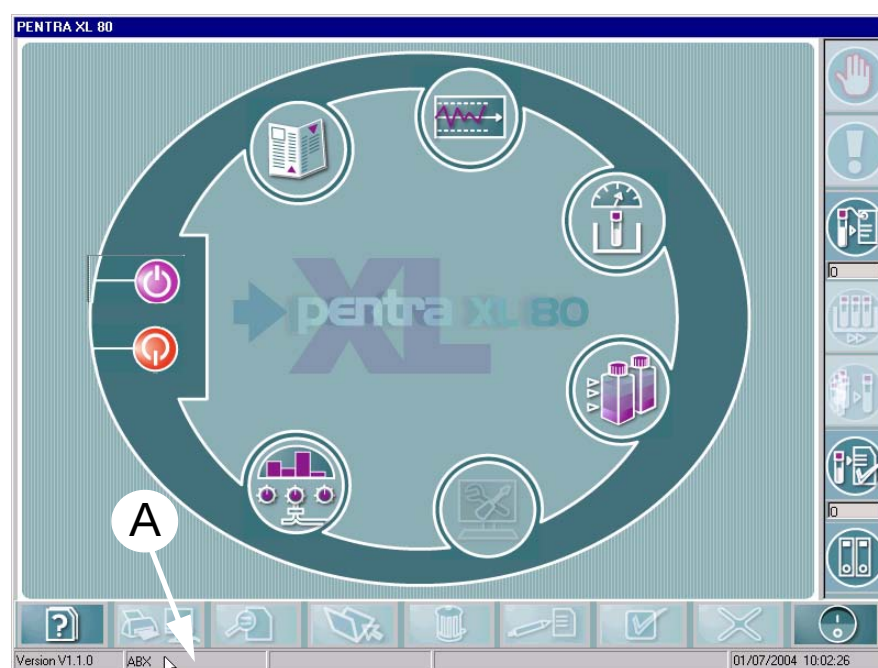

Fig. 5-32 User list
- Double-click the second box (A) of the Footer (see **Fig. 5-32 User list**, page 5-41).